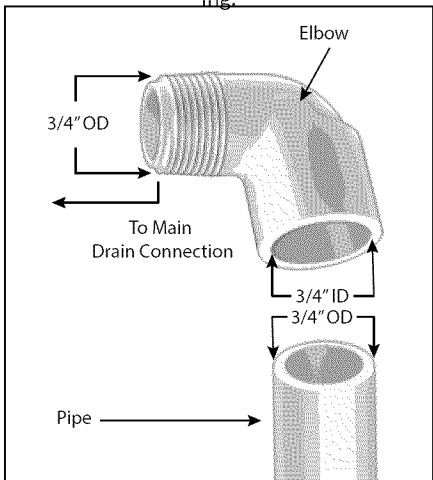

Figure 5 - Main Drain Connection piping.
- 90° Elbow with 3/4" Female Unthreaded Socket End X 3/4" Male NPT Threaded End (Figure 5 on page 8)
- 3/4" OD Plastic Pipe for Condensate Drain (Figure 5 on page 8)